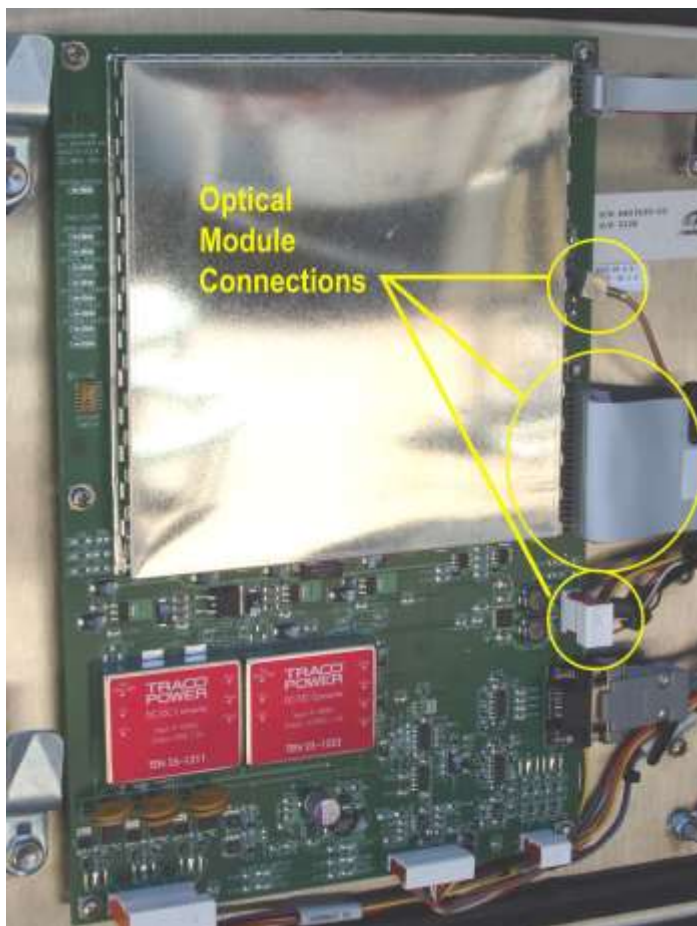
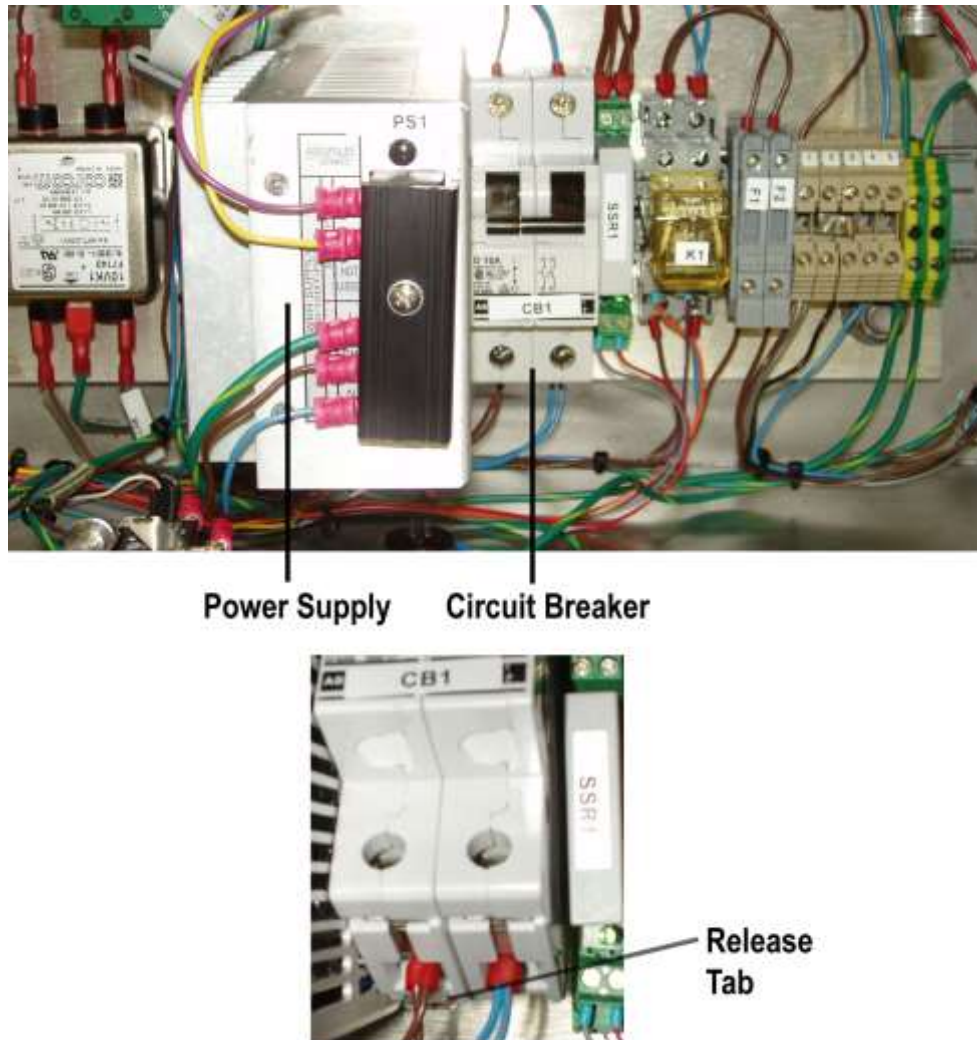

Figure 14. Optical Module Connections at the Data Acquisition Board
Figure 17. DIN Rail Component Removal
2. Check connections between modules (see Figure 14, Figure 15, Figure 16, and Figure 17). Remove connectors and reconnect them, then turn the system on again.
3. If both the optical module and Data Acquisition Board indicate failures, disconnect the optical module's three cables from the Data Acquisition Board to ensure it is not causing the Data Acquisition Board to fail (see Figure 14).